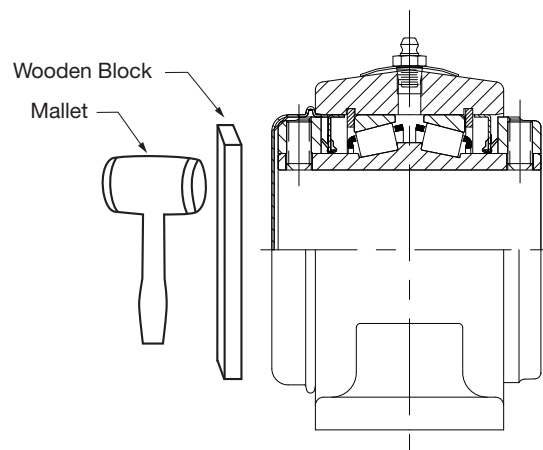

Figure 1
4. Guide the end closure over the collar and into the housing bore. (Figure 1 or 2). Hold a piece of wood wide enough to cover the entire end closure face against the face of the end closure. Using a mallet, strike against wood to drive the end into the housing. The end closure is securely mounted when the ridge on the OD of the end closure bottoms against the housing.